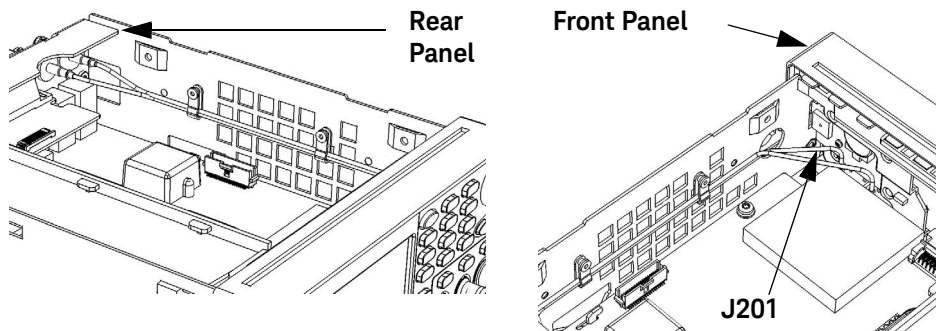

Figure 4-7 Option 201 rear input channels 1 and 2
- 2 Connect the gold-colored push-on connector end of the supplied RF cable to the appropriate connector on the motherboard close to the front panel. (J201 is on the left.) Refer to Figure 4-7.
- 9 Install the supplied cable clamp(s) as shown in Figure 4-7.